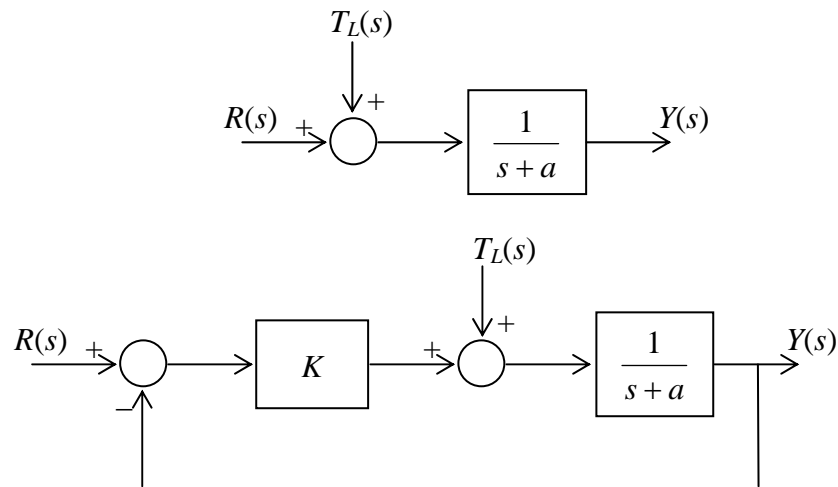

Figure 3 Disturbance entering at the input
5. Investigate the effect of external unit-step disturbance $T_L(s) = 1/s$ on open loop and closed-loop systems given in figures 3 and 4: